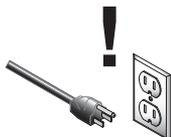

Figure 20. Blade mounted with teeth facing correct direction.
10. Install new blade, making sure teeth face correct direction for rotation of arbor, as shown in **Figure 20**.